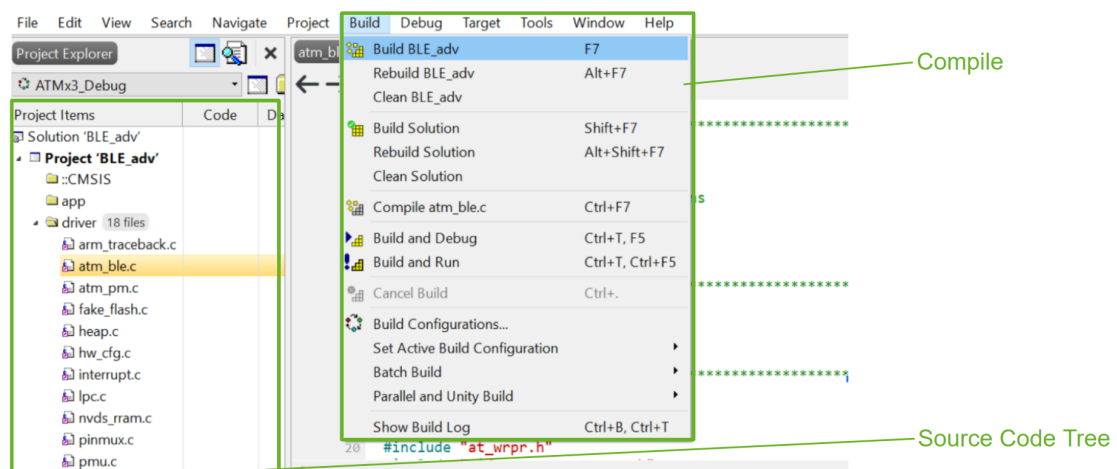

Figure 13 - SES IDE GUI - Compile
- 2) Edit/Compile firmware in SES IDE, see Figure 13